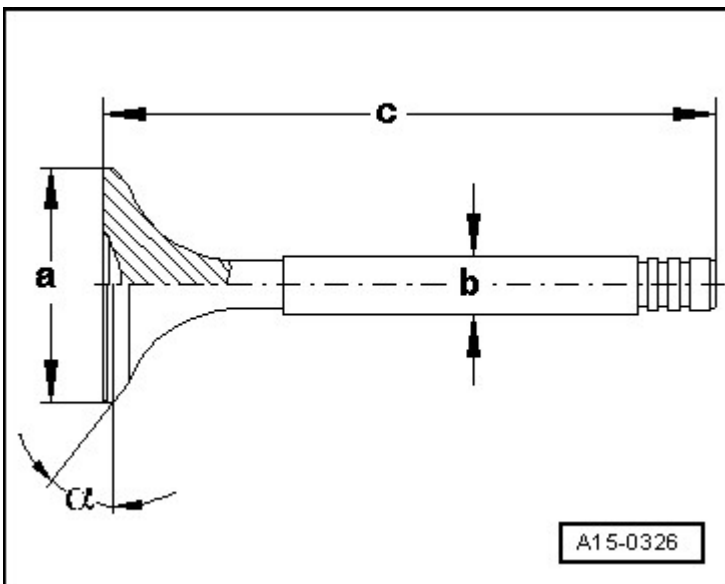

Fig. 17: Identifying Valve Dimensions
- For the correct valve dimensions, refer to **Fig. 17**